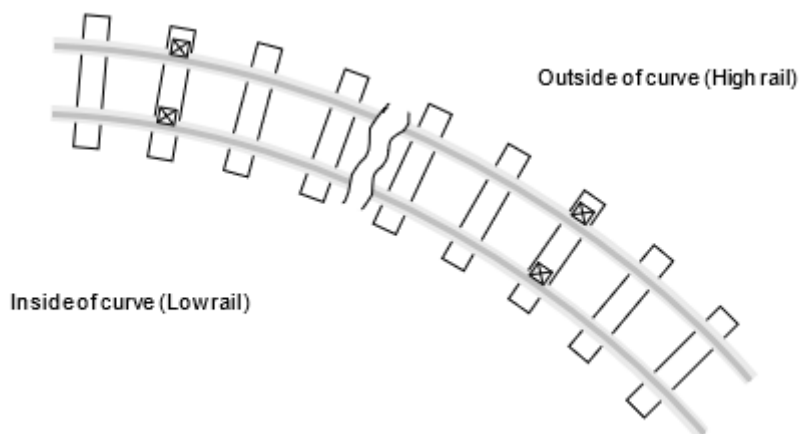

Figure 2 - Placement of fastenings when adjusting on curves
2. On curves with elastic fastenings, to prevent the rail from rolling in, reinstall or leave one clip on the outside of the curve on both rails every 25 sleepers (see Figure 2). Install this clip without the shoulder insulator in place. Alternatively, zero load restraint fastenings may be used in a sequence of 1 in 10 to provide additional protection from rail roll over without creep resistance.